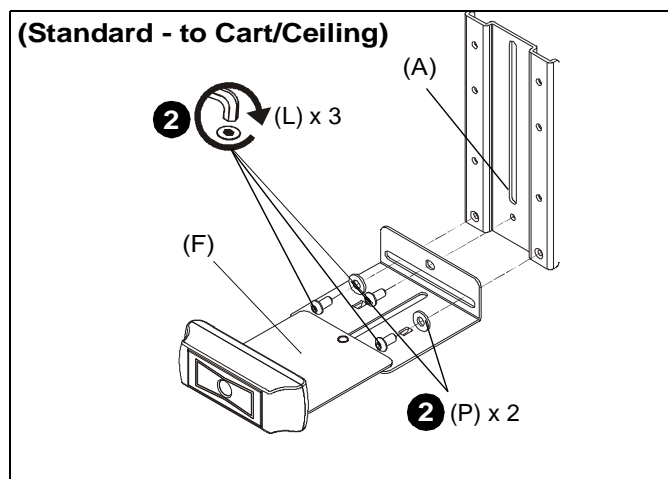

Figure 2
2. **(Standard to cart/ceiling)** Use three 1/4-20 x 1/2" button head cap screws (L) and two large washers (P) to secure camera mount (F) to upright bracket (A). (See Figure 2)